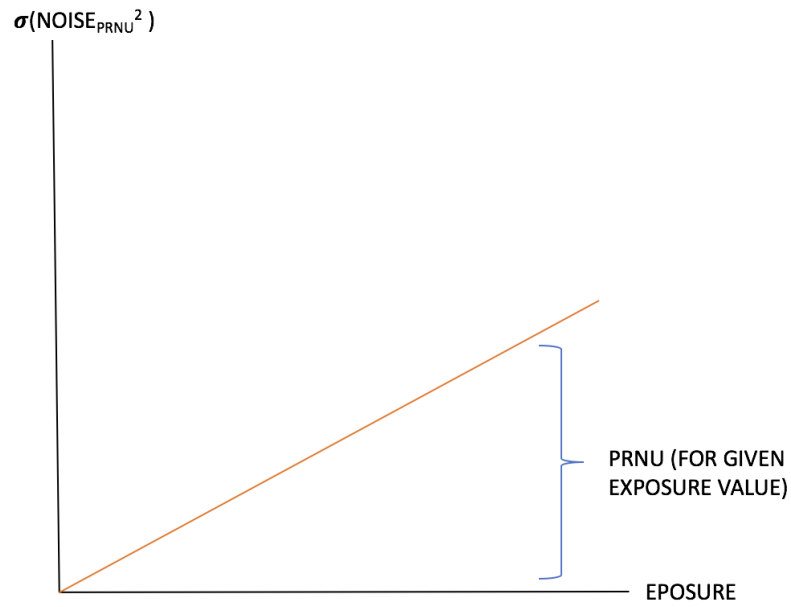

Figure 3: *EXPOSURE* vs $\sigma(\text{NOISE}^2)$
- Repeat steps above for all the exposure values to get 100 datapoints. The expected graph must look like figure 3.